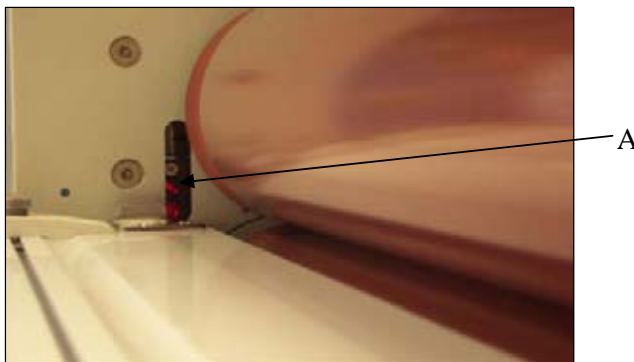

Figure 13
**Electronic Safety Beam:** (Fig. 13 – Item A)